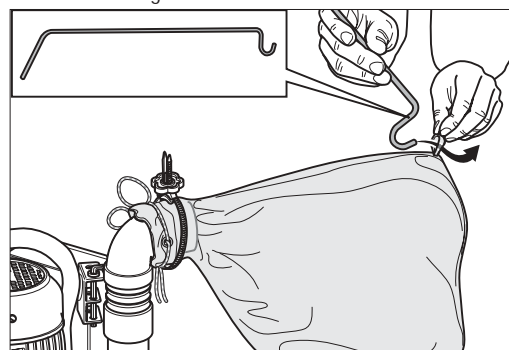

Fig. 5: Hook the cable rod into the sling on the dust bag.
- 6 Pick up the cable rod and hook it into the sling on the top end of the dust bag (Fig. 5).